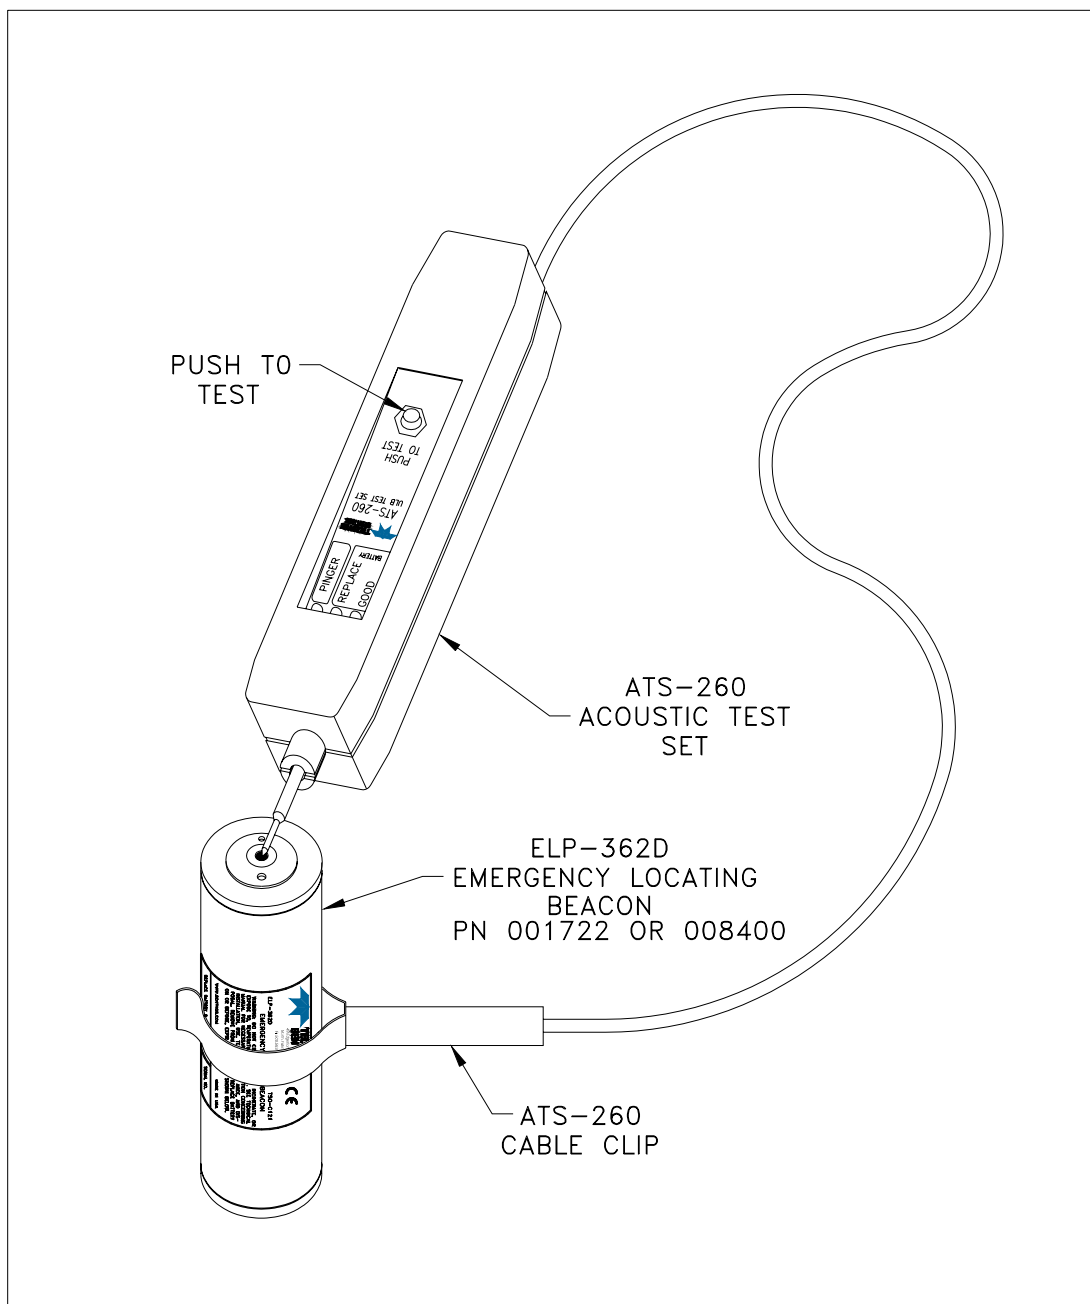

Figure 3-4 Connecting the ATS-260 Acoustic Test Set
Figure 3-4 Connecting the ATS-260 Acoustic Test Set.....	10
1. Attach the cable clip directly to the beacon housing as shown in Figure 3-4. It is not necessary to remove the beacon from the mount to conduct the test. Although the cable clip can touch the beacon label, it is important that at least part of the clip touch the bare aluminum surface of the beacon.
2. Apply the test set probe to the water activation switch as shown in Figure 3-4.